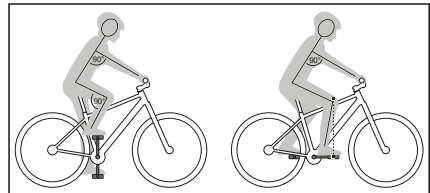

Fig. 2: Seat position
- ↳ Check whether you are able to maintain a comfortable sitting position, even on longer journeys, and can safely operate all components on the handlebars while riding (see Fig. 2).